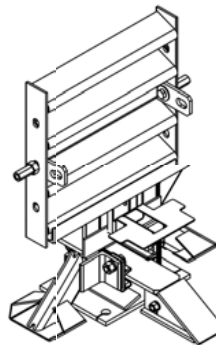

Figure 35
- 6) Remove the Nose Assembly and attach a chain to the Pullout Brackets on the first Diaphragm (Figure 35). Attach both ends of chain to a heavy vehicle (such as a 1 ton pickup).